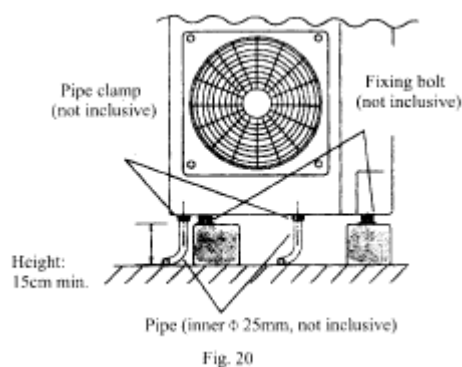

Fig. 20
2. Cushion the unit with bricks or strong base at least 15 cm thick. (See Fig. 20).